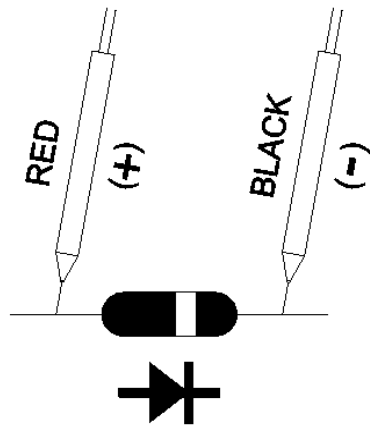

Fig. 2
- 5) a. When connected with polarity as shown in Fig. 2, a